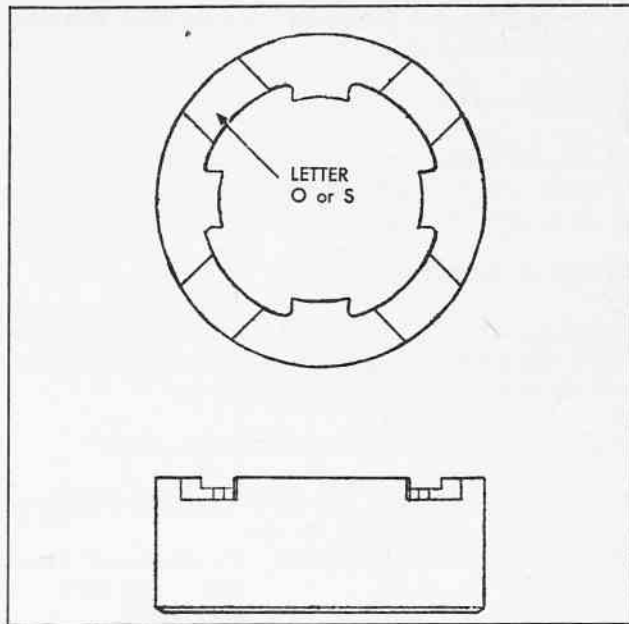

Fig. 18 Front Sprag Inner Race Identification
If the inner race is not of the late type, which can be identified by an "O" or "S" in the recess of the tang end, it should be replaced (see Fig. 18).
- Front Sprag Inner Race - Identification letter. See Fig. 18.